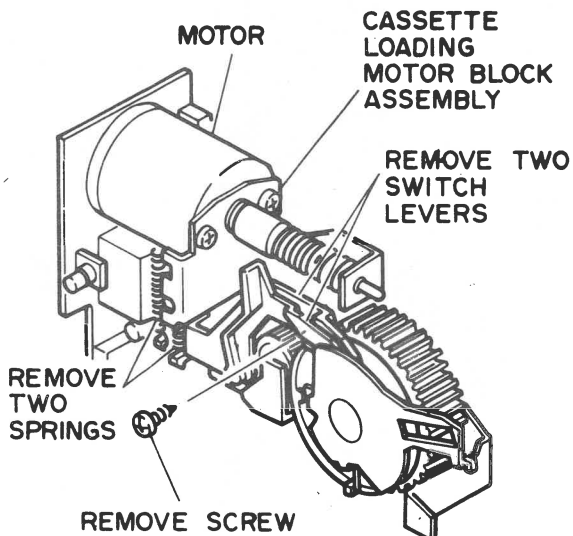
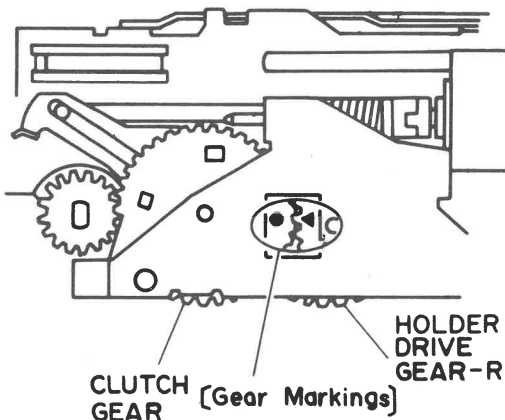

Fig. 17 Motor Block Disassembly
Fig. 18 Motor Block Timing Mark Alignment
**Motor Block Disassembly** (Fig. 17, 18)
2. Remove the two (2) springs and then remove the two (2) switch levers.
- When installing the clutch gear, carefully align the timing marks on the clutch and drive gear. (Fig. 18)